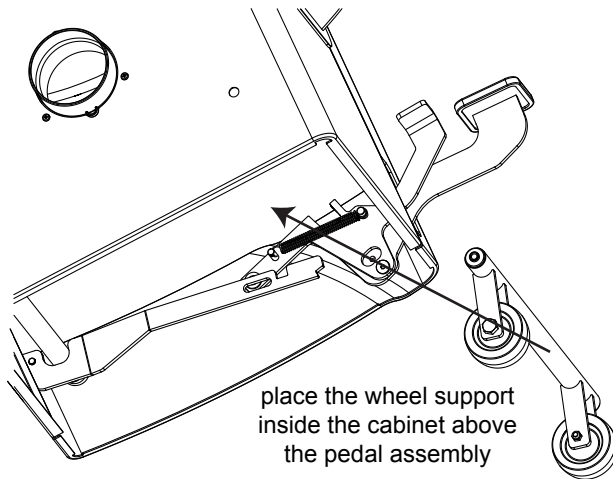
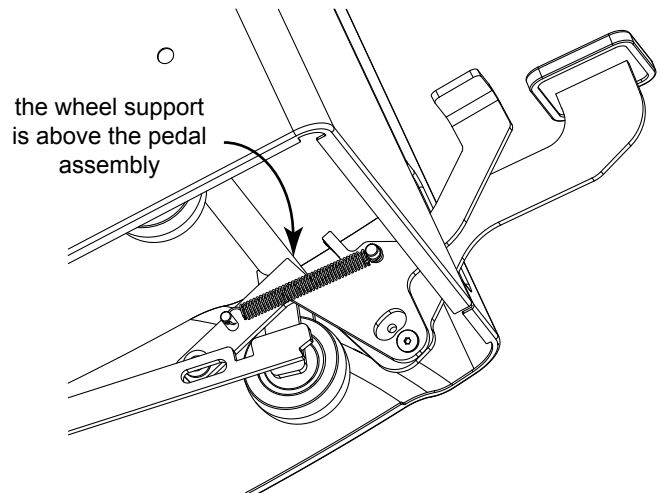

Fig. 32a
Fig. 32b
14. Take the wheel support and place it inside the cabinet and above the pedal assembly, as shown in Fig. 32a. Make sure that the end of the wheel assembly with the mounting shoulder is at the rear of the cabinet. It might be a little awkward to position the wheel support above the pedal assembly, but the pedal assembly is loose and can move to allow you to position the wheel support above the pedal assembly. When the wheel support is correctly positioned the pedal assembly will be between the two wheels (see Fig. 32b). The pedal assembly must be inserted through the hole in the cabinet before the wheel support is placed inside the cabinet, otherwise the wheel support will block the pedal assembly.